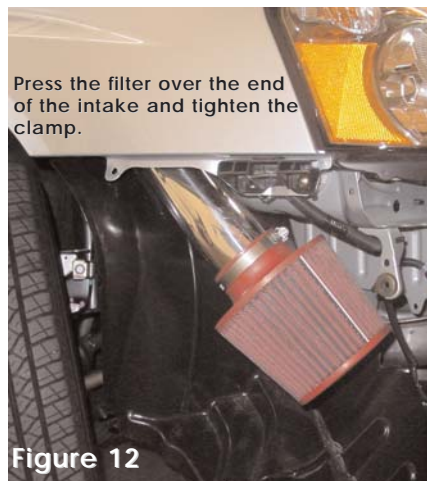

Figure 12
- 11-Take the Injen filter and slip it over the lower end of the intake in the bumper area and tighten the clamp on the filter. (See fig. 12)